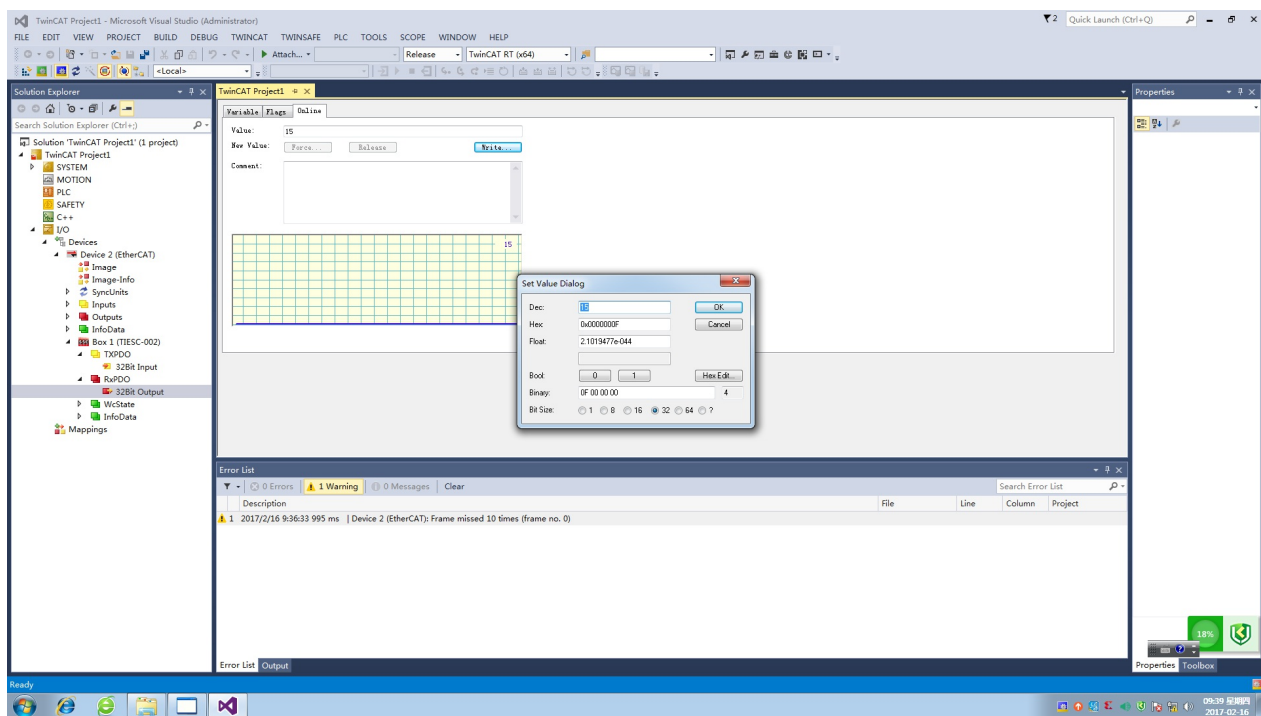

Figure 4-2 Control LEDs on MYD_C437X_PRU in TwinCAT
9. Choose `Boxn(TI-ESC)->RxPDO->32Bit` , in the sub window at right, choose `Online->Write` , and write number 0~15 as shown in Figure 4-2 below. Observe the state of the blue LEDs on MYD_C437X_PRU development board. If you write number 15 , all the four blue LEDs will be turned on.